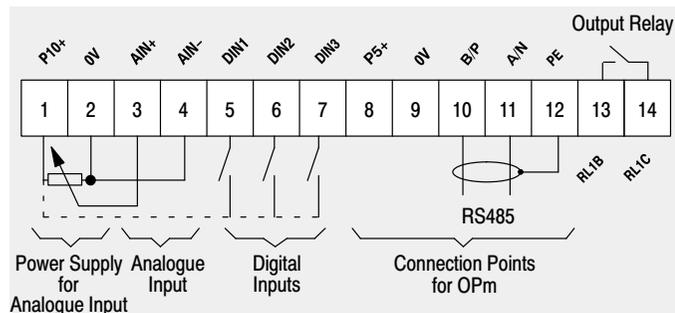

Fig. 4: Control Terminal Connections
- (1) Connect control terminal 5 to terminal 1 via a simple on/off switch. This sets up the inverter for clockwise rotation (default).
- (2) Connect a 10 kΩ potentiometer to the control terminals as shown in Figure 4 or connect a 0 – 10 V signal from pin 2 (0V) to pin 3.
- (3) Apply mains power to the inverter.
- (4) Set parameter P006 to 001 to specify analogue setpoint.
- (5) Set parameter P007 to 000 to specify digital input and disable the front panel controls.
- (6) Set parameters P021 and P022 to specify the minimum and maximum output frequency settings.
- (7) Set the external on/off switch to ON. Turn the potentiometer (or adjust the analogue control voltage) until the desired frequency is displayed on the inverter.